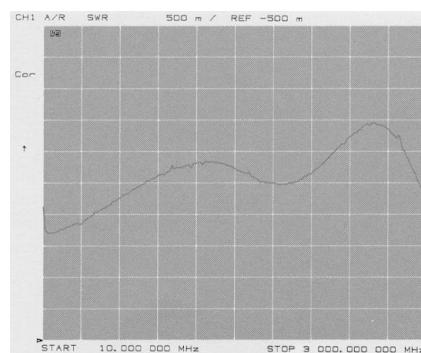

Figure 21. Plot of a mixer's RF port SWR
10. The resulting display (Figure 21) is the SWR of the mixer's RF port between 10 MHz and 3 GHz.